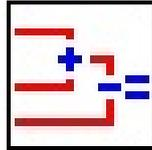

Figure 79 - Block ADD/SUB
4. How could you achieve the same results using the block shown in Figure 79? make and evaluate the program.